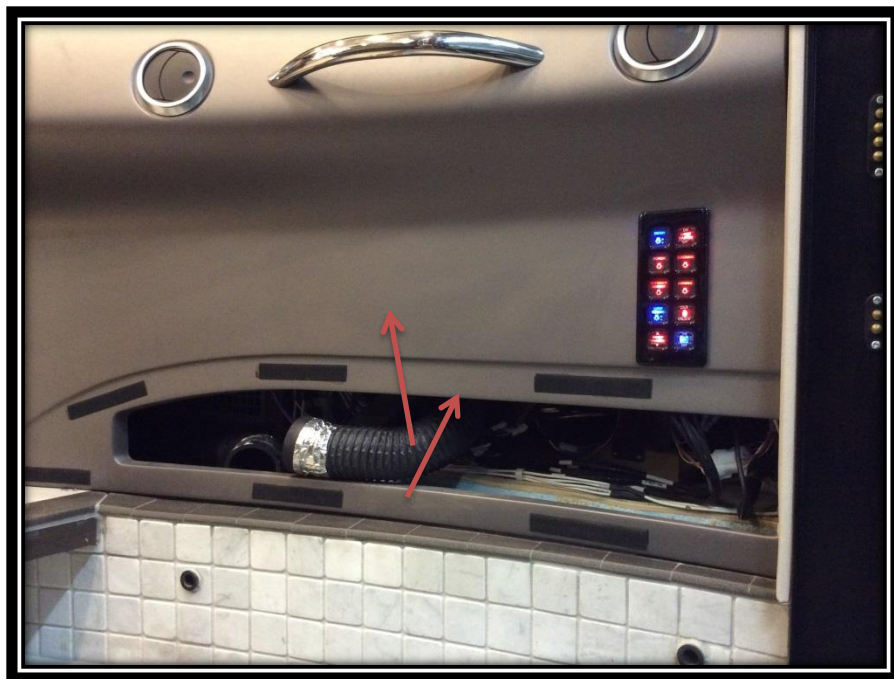

FIG. 4-1
2. Remove HVAC vents from removed panel. Refer to FIG. 4-1.